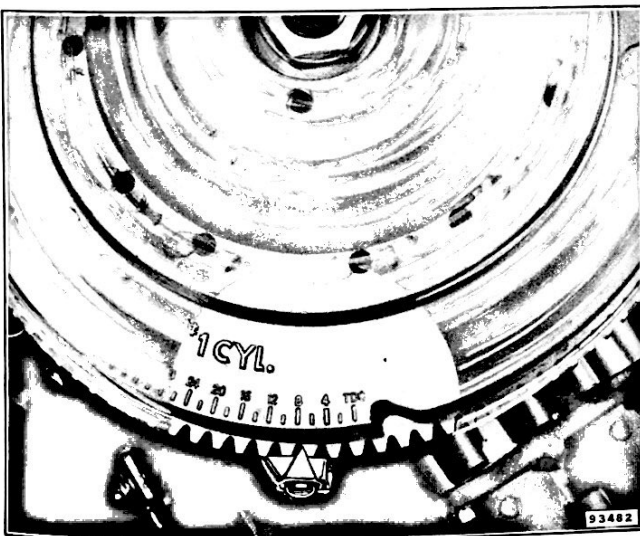

Figure 2-13. 6° - 8° Advance Timing
- b. Start motor and advance control box warm-up lever to show 6°-8° advance timing. See Figure 2-13.